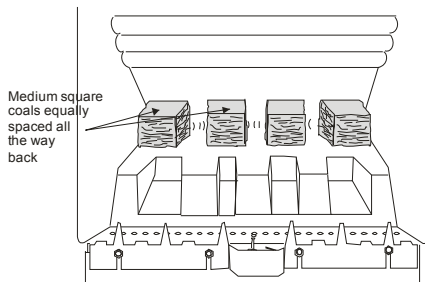

Figure 23
1. Unpack the bag of **Medium Square Coals** and place them equally, as far back as possible on the matrix. Refer to **Figure 23**.